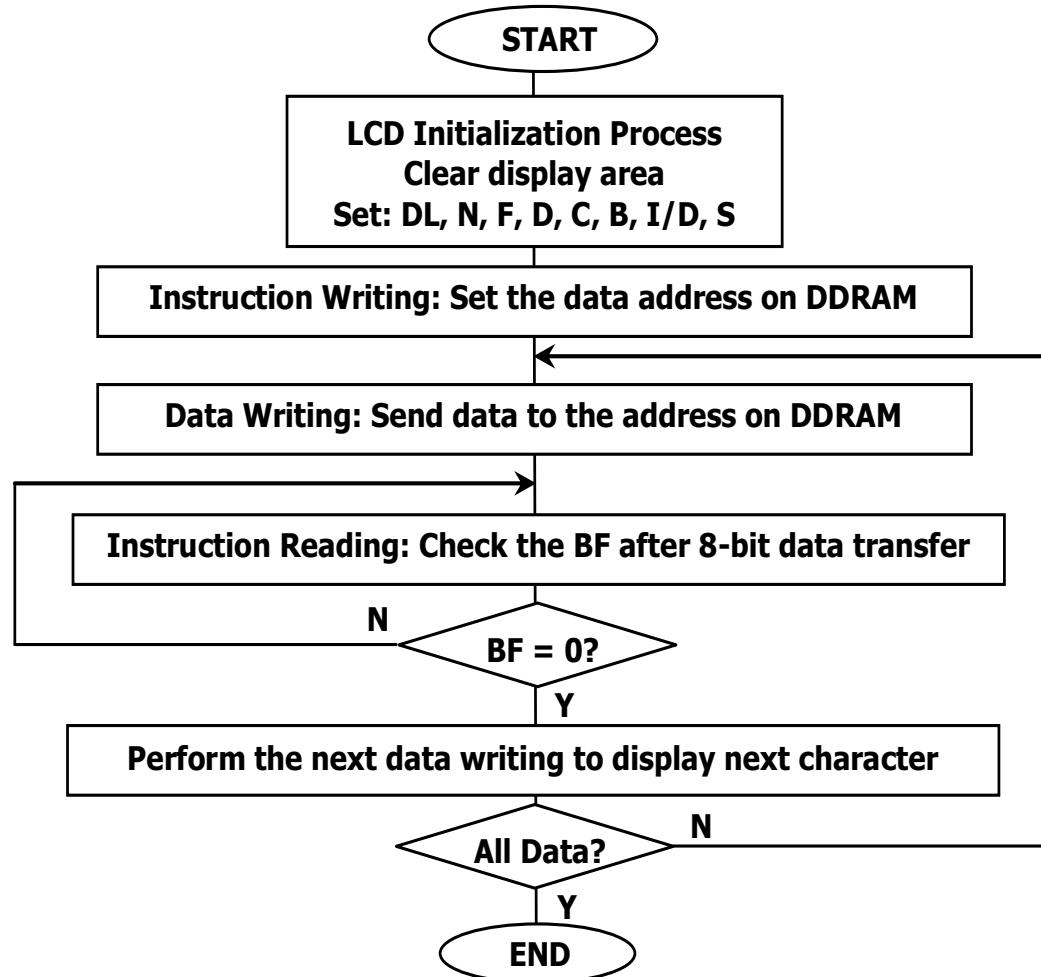

Figure 8.22 Block diagram of the operational sequence of interfacing to SPLC780.
- A block diagram of this operational sequence is shown in Figure 8.22.